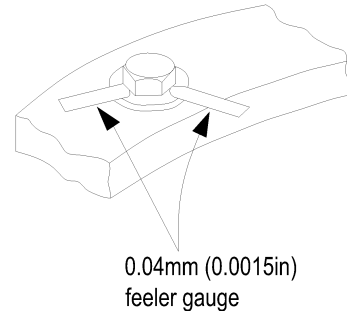

**Figure 5-11**
3. As indicated by the arrow Fig 5-11 , page 5-17, insert a 0.04mm feeler gauge in between the bolt and washer.
6. As indicated by the arrow Fig 5-11 , page 5-17, insert a 0.04mm feeler gauge in between the bolt and washer.